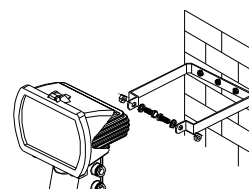

FIGURE 12
5) Re-attach the floodlight to the bracket and secure the supply cable (and additional lighting load supply cable if applicable) to the wall using suitable clips. Ensure that the cable is not touching the body of the floodlight, and that there is sufficient slack in the cable to allow the floodlight to be tilted and adjusted as required (FIGURE 12). NB: Tilt and adjust the floodlight by grasping the metal body of the floodlight, not the wiring box.